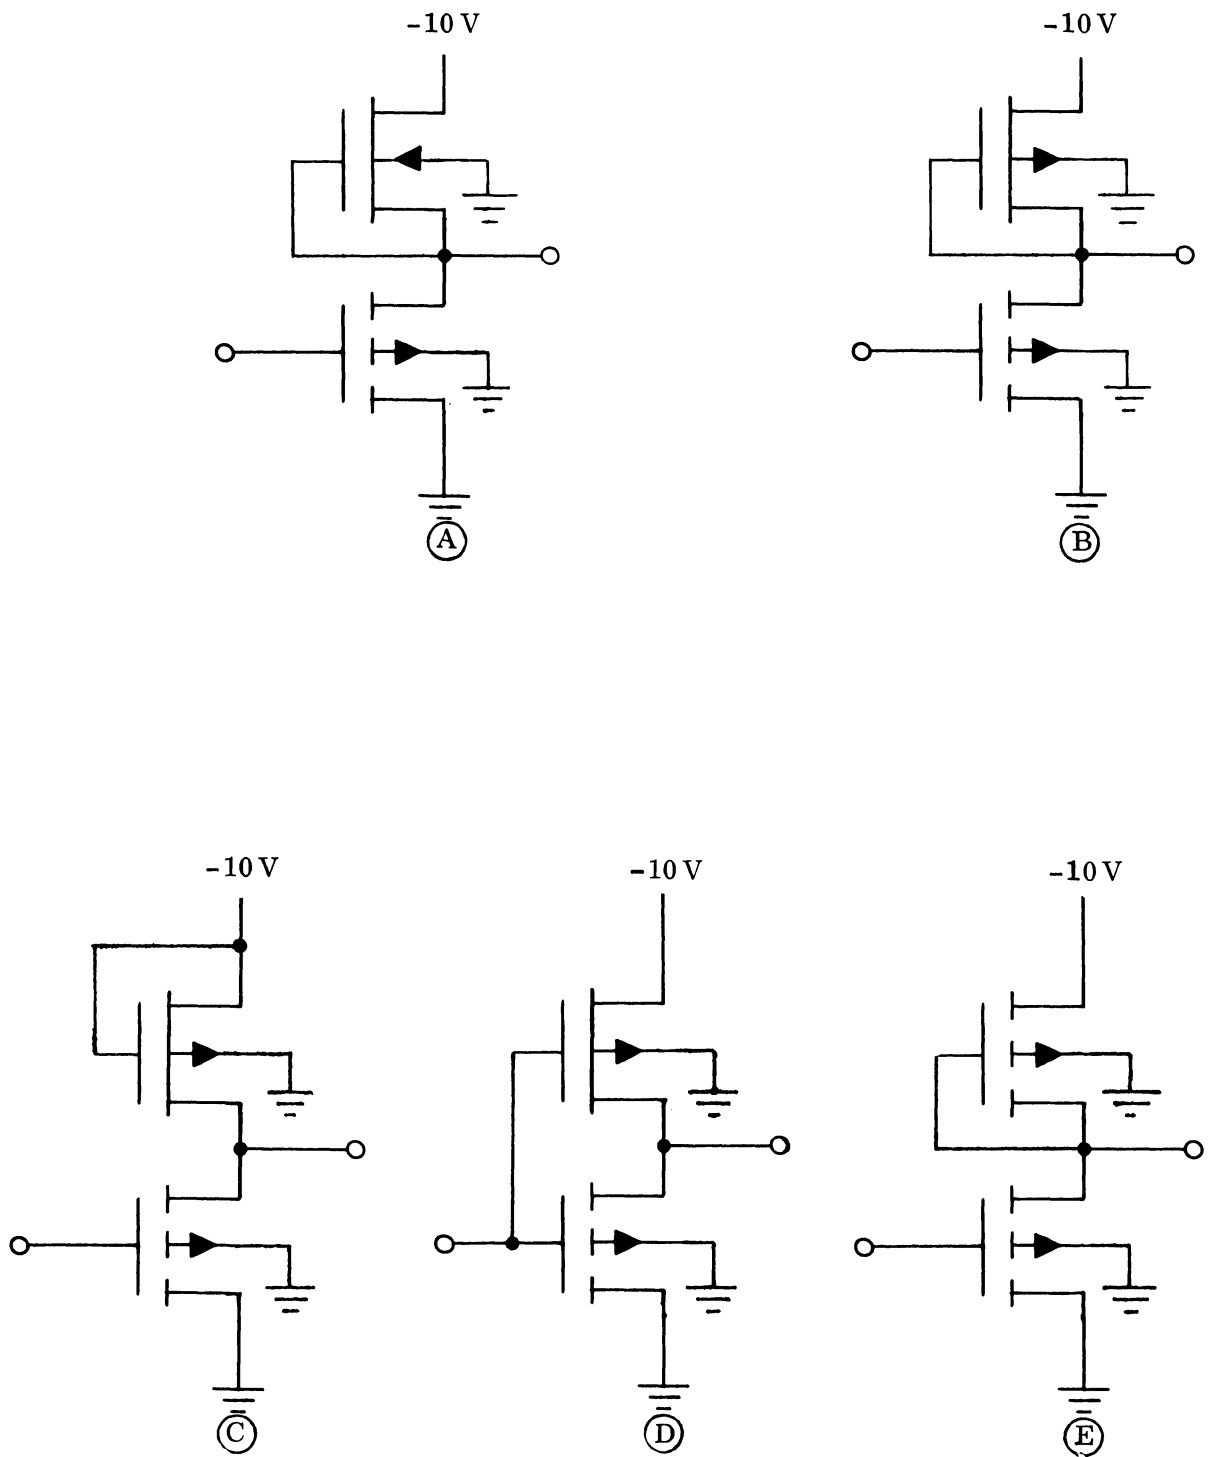

FIGURE 6
19. Which of the illustrations in figure 6 correctly represent a PMOS inverter using a depletion MOSFET as a load? _____